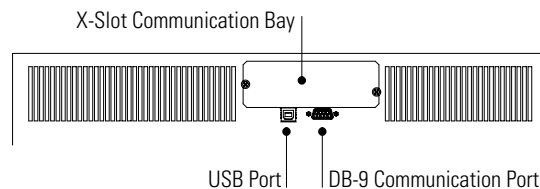

Figure 18. Communication Options
The Powerware 9125 UPS is equipped with a USB port, a DB-9 communication port, and an X-Slot communication bay (see Figure 18).
1. Connect the USB cable to the USB port on the UPS rear panel (see Figure 18).
To establish communication between the UPS and a computer, connect your computer to the UPS communication port using the supplied communication cable (see Figure 18).